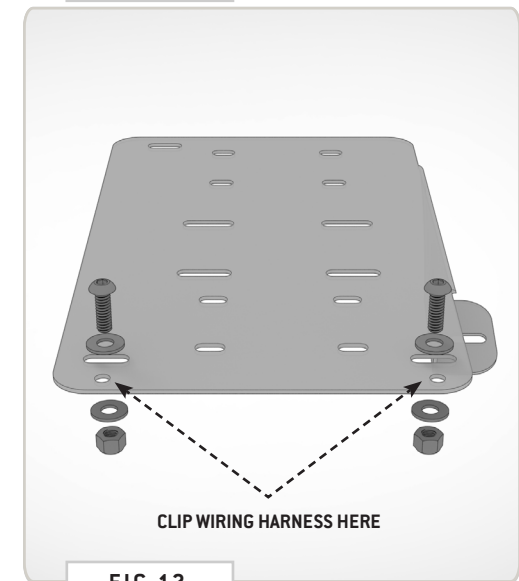

FIG 12
**3.3 Thread Button Head Screws Through Clip Holes:** Thread in the supplied **1/4-20" Button Head Screws** with a **1/4" Flat Washer** through the pre-existing **Mounting Holes** previously housed the **Wiring Harness** shown in **FIG 6+7** and set loosely into place with another **1/4" Flat Washer** and **Nylon Locknut** (**FIG 12**).
**NOTE -** There are holes drilled into the **Mounting Plate** to relocate the clips holding the **Wiring Harness**. See **FIG 12** for locations.